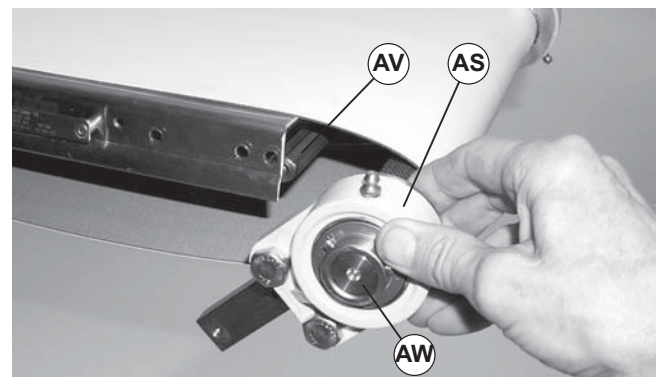

Figure 30
3. Install bearing and head plate assembly (Figure 30, item AS) onto drive spindle (AW). Tighten two set screws to 34 in-lb (3.8 Nm). Check after 24 hrs. of conveyor usage.